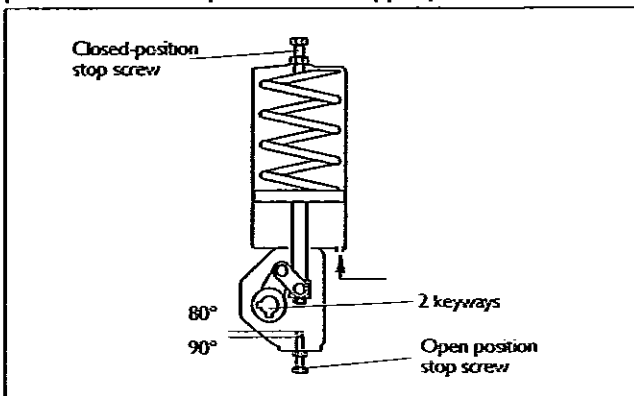

Fig. 7. B_JA actuator
Install the actuator on the valve with the piston in the lower end of the cylinder and the valve in the open position, see fig 7. The cylinder must be unpressurized and the air ports open. Adjust the open-position setting using the stop screw (27) at the end of the cylinder. The close-position setting is adjusted with the stop screw (26) at the end of the cylinder while the actuator is pressurized and the piston is in the upper position.